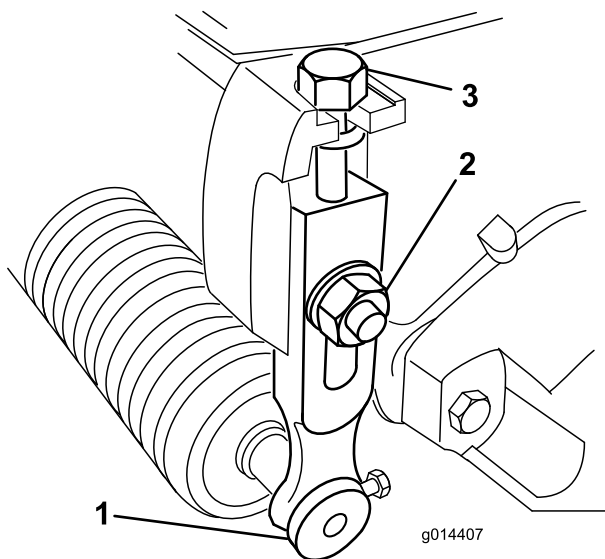

Figure 9
1. Loosen the locknuts securing the height-of-cut arms to the cutting unit side plates (Figure 9).